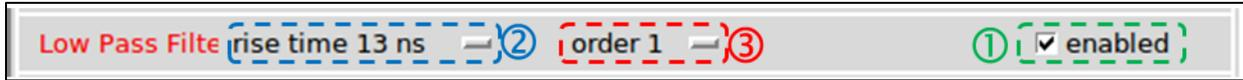
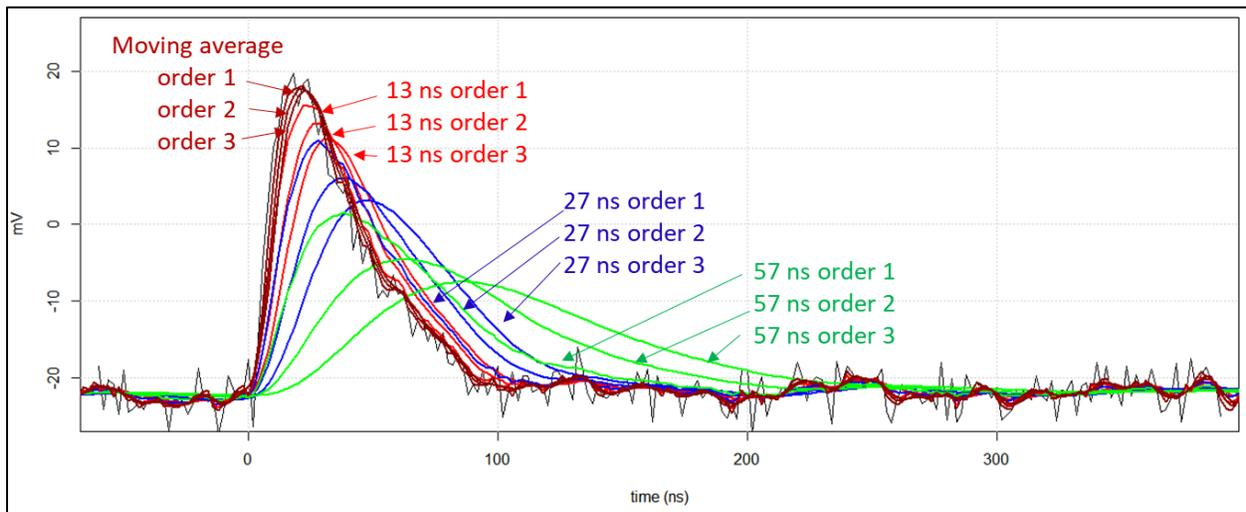

Figure 13: Low-pass filter parameters.
Figure 14: effects of different low-pass filters
If the experimenter wants to benefit from a low-pass filter, he must check the “enable” box ① (Figure 13).
The user can select with button ② (Figure 13) one of the four available filters: either he chooses a moving average of 4 samples, or he chooses a filter defined by its rise time: 13 ns, 27 ns or 57 ns.
He can select the filtering order ③ (Figure 13) : “order 1” means that there is only one low-pass filter, “order 2” means that there are two successive low-pass filters, “order 3” means that there are three successive low-pass filters. Figure 14 shows the different effects of low-pass filters on one electronic pulse.